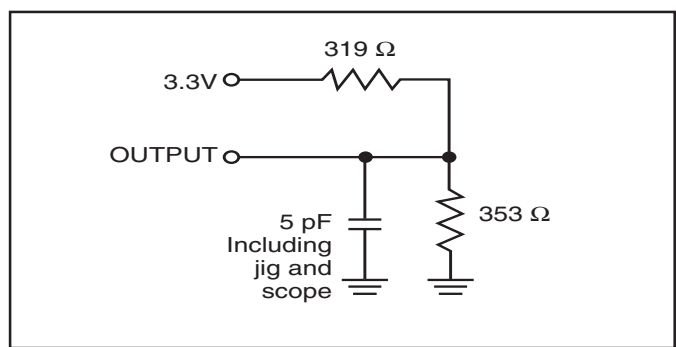

Figure 2.
2. Tested with the load in Figure 2. Transition is measured ± 500 mV from steady-state voltage.
2. Tested with the load in Figure 2. Transition is measured ± 500 mV from steady-state voltage. Not 100% tested.
2. Tested with the load in Figure 2. Transition is measured ±500 mV from steady-state voltage. Not 100% tested.